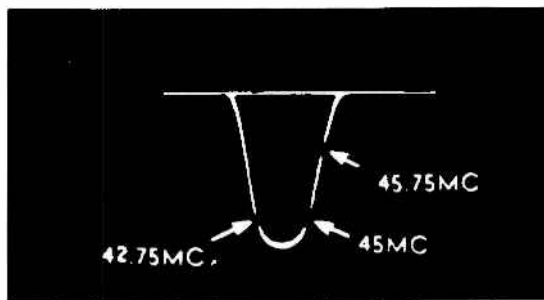

Fig. 10 Overall IF Response
8. With the test equipment set up as in Step 7, alternately adjust the 2nd IF, 3rd IF, 1st IF and the converter plate coil until an overall response curve similar to Fig. 10 is obtained. Do not adjust the 4th IF in this step. It will be found that the 2nd IF affects the low side (42.75 Mc) and the 3rd IF the high side of the response curve.